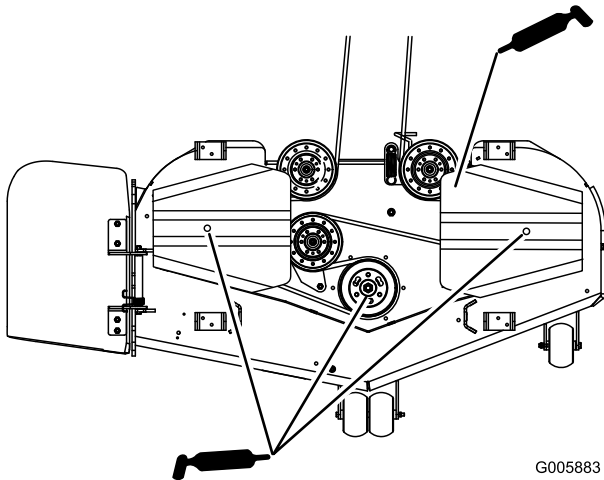

Figure 29
3. Grease the idler pulley pivot (Figure 29).
4. Grease the fittings on the 3 spindle bearings (Figure 29).